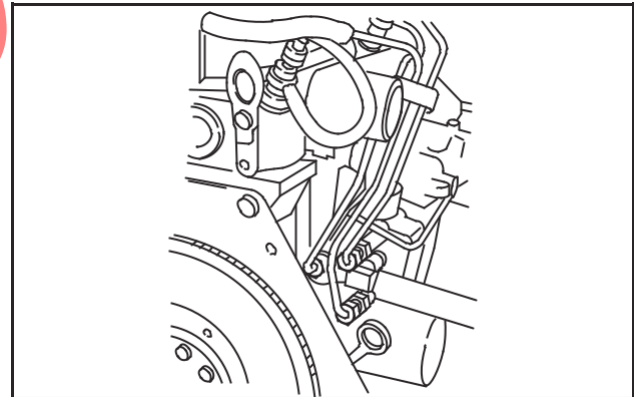

Fig. 23 – Installing Fuel Delivery Lines
- b. Torque fuel delivery lines to 25.0 Nm (220 in. lbs.), Fig. 23.